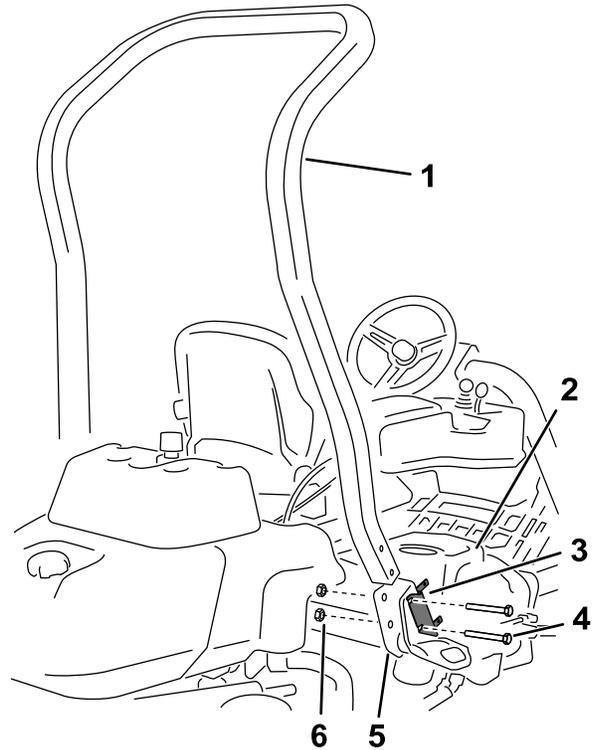

Figure 3
4. Remove the 2 bolts that secure the fuse-block bracket to the ROPS bracket as shown in Figure 3.